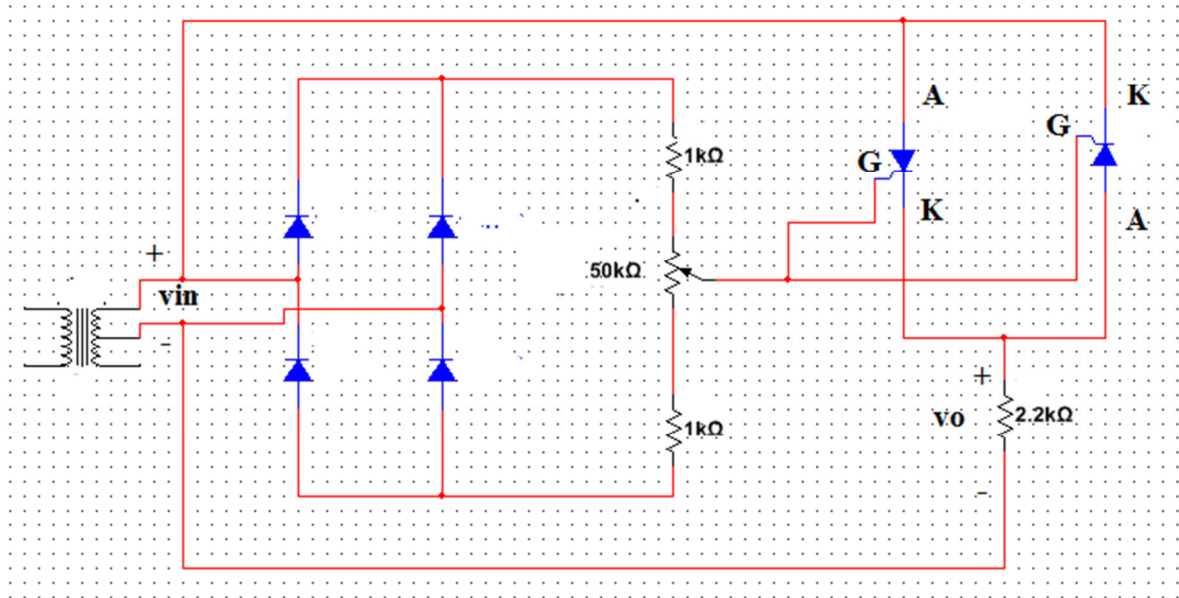

Figure 12.5: Phase Controlled Single Phase AC Voltage Controller Circuit
- Implement the single phase ac controller circuit on breadboard as shown in the Figure 12.5.